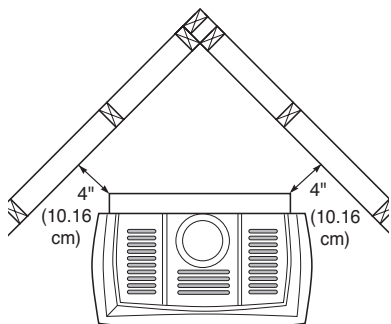

Figure 4 - Clearance for Corner Installation
- Proper clearances must be maintained. See Figure 3 and Figure 4, page 6.